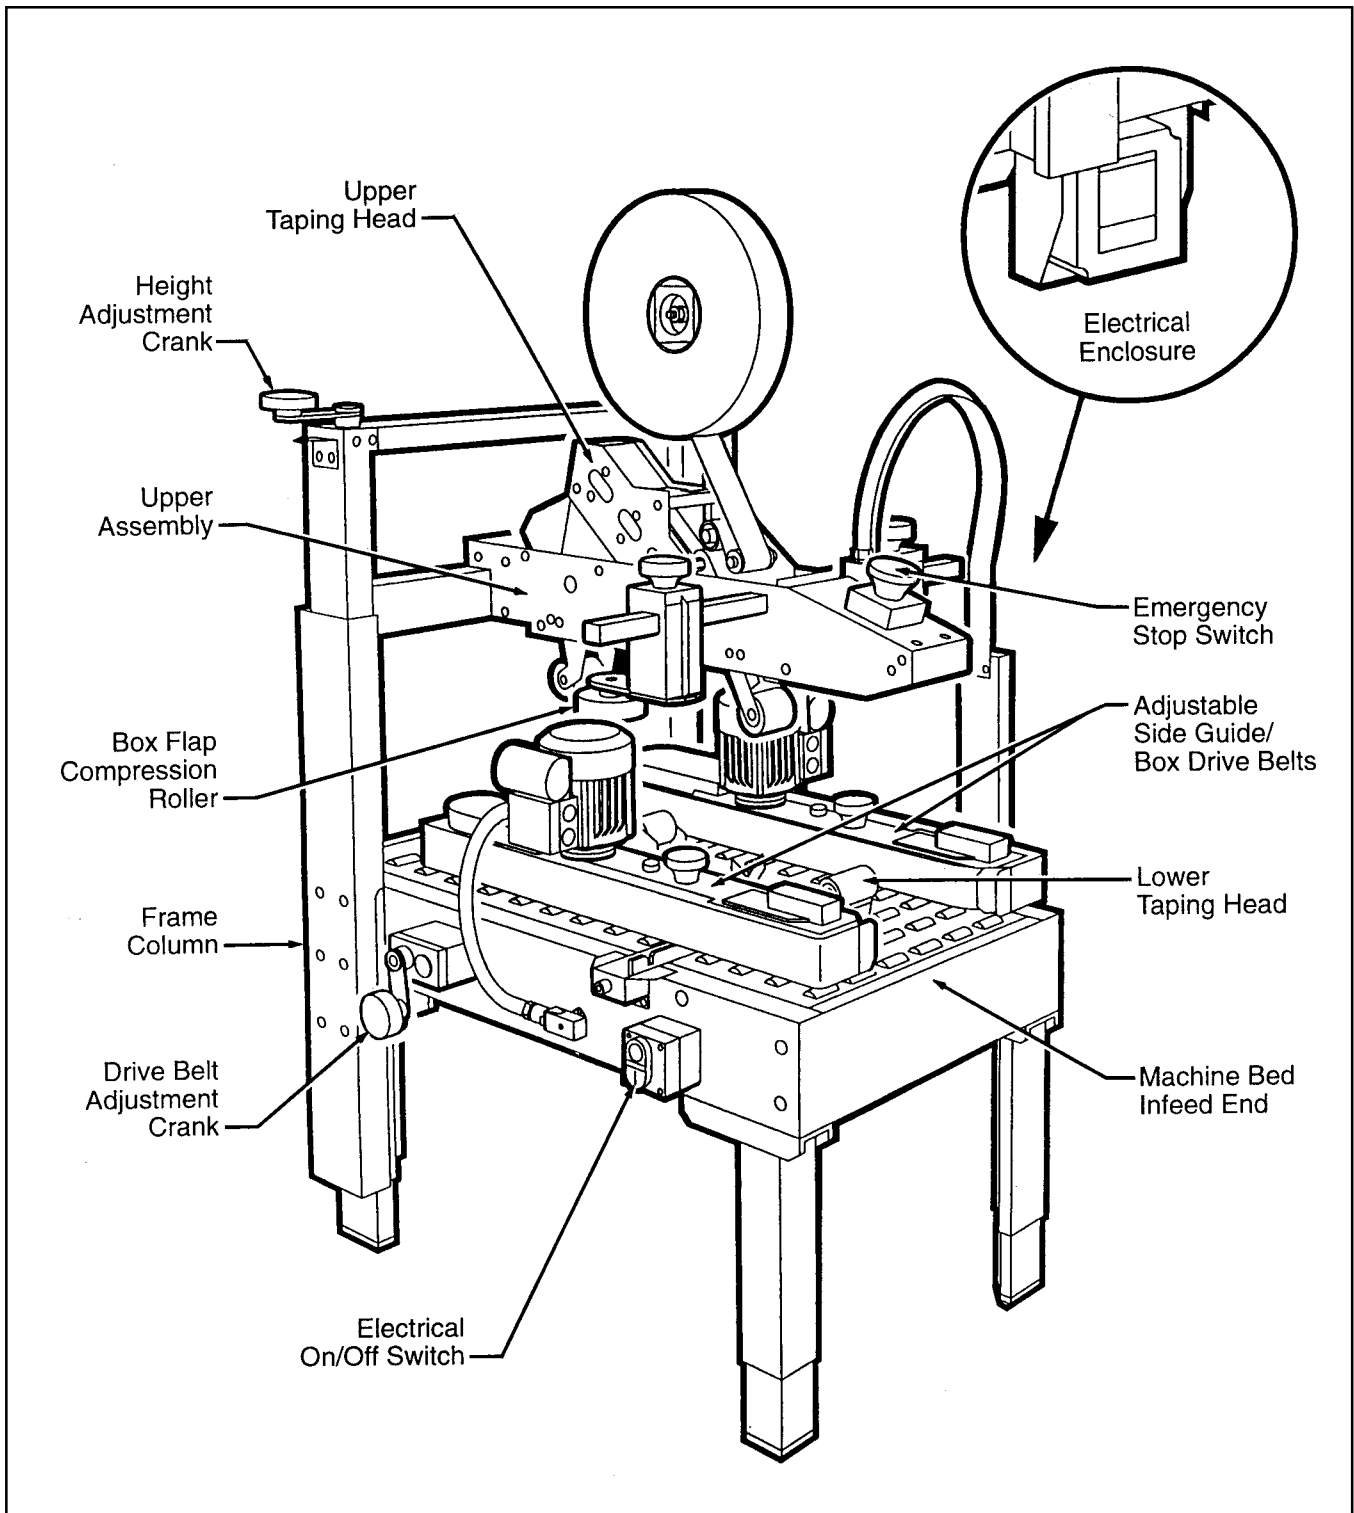

Figure 3-1 – Case Sealer Components
The following instructions are presented in **the order recommended** for setting up and installing the case sealer, as well as **for learning the operating functions and adjustments**. Following them step by step will result in your thorough understanding of the machine and an installation in your production line that best utilizes the many features built into the case sealer. Refer to Figure 3-1, page 15, to identify the various components of the case sealer.
Refer to Figure 3-1 to acquaint yourself with the various components and controls of the case sealer. Also see Figures 3-1 and 3-2 in Section II for taping head components.
Switches and Controls (Refer to Figure 3-1)
7. Both the upper and lower taping heads utilize extremely sharp tape cut-off knives. The knife is located under the orange knife guard which has the "WARNING – SHARP KNIFE" label. Before loading tape, refer to Figures 3-1 and 3-2 in Section II to identify the knife location. Keep hands out of these areas except as necessary to service the taping heads.